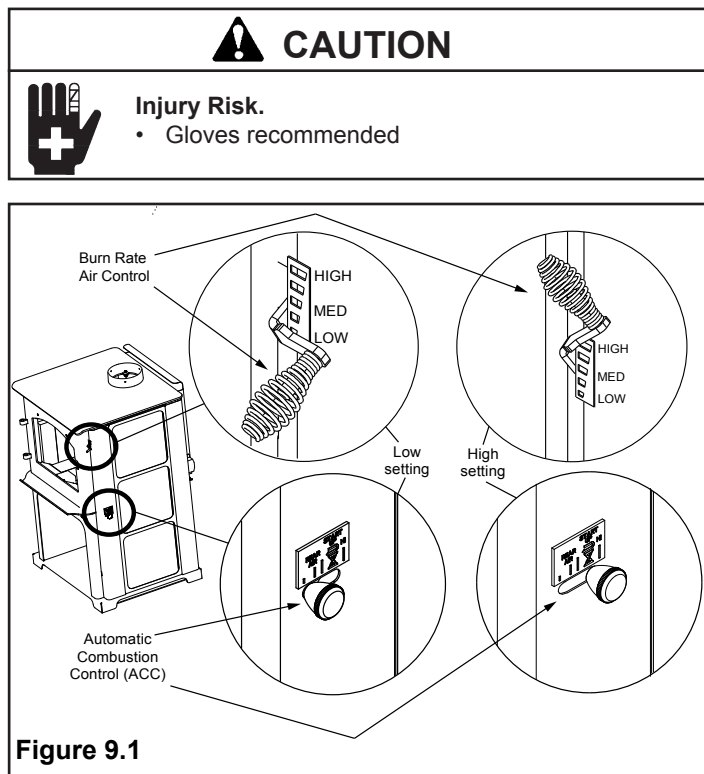

Figure 9.1
very important that the flames be maintained and not allowed to go out. This will ensure the cleanest possible fire. If the flames tend to go out, it is set too low for your burning conditions. The air control located at the upper right hand corner is used to adjust for burn rates. This is called the Burn Rate Air Control. **Figure 9.1**
Open both Burn Rate Air Control and ACC systems fully. To do this with the Burn Rate Air Controls push spring handle up to high. For the ACC timer system push knob towards back of appliance until the knob is located under the high position. **Figure 9.1**
To maximize heat output with the ACC timer System or also known as high burn push the ACC Air Control lever towards the back of the appliance and leave. This combined with having the main burn rate control lever pushed up will deliver the most amount of air needed to achieve the highest amount of heat output. **Figure 9.1**
- Then activate the ACC timer system by pushing the knob all the back toward the appliance to “HI” then pull forwards towards the front of the appliance until the knob stops (**Figure 9.1 on page 9**).